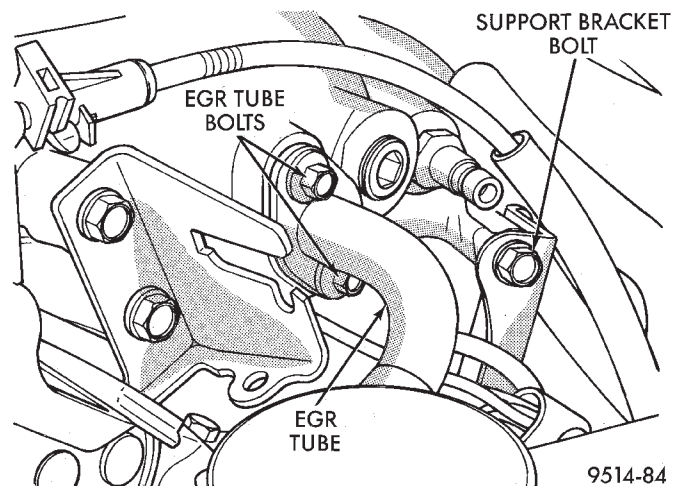

Fig. 35 EGR Tube and Right Manifold Support Bolt
- (11) Remove EGR tube from intake plenum (Fig. 35).
- (12) Remove plenum support bracket bolt located rearward of EGR tube (Fig. 35).
- (13) Remove bolts holding upper intake plenum and remove plenum.